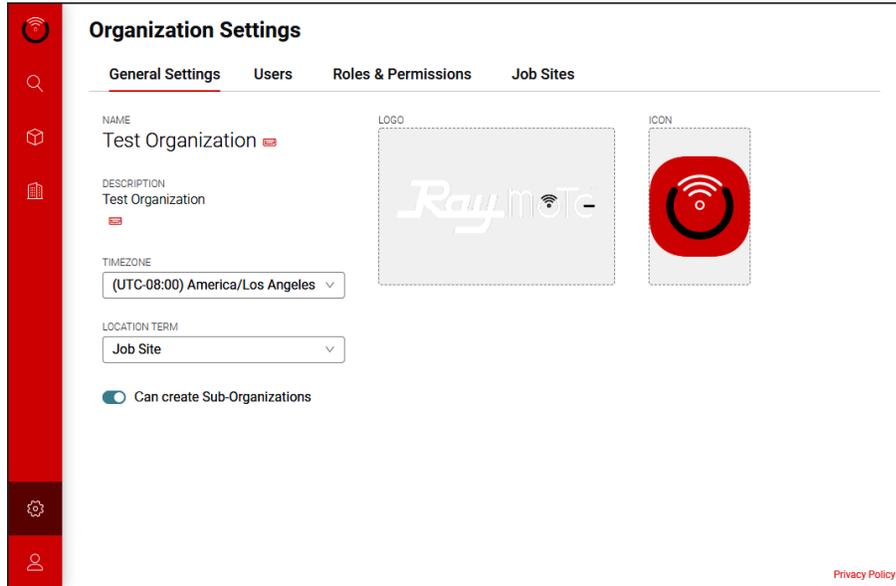

Figure 48. Organization Settings Menu
- Click on the Settings menu, see **Figure 47**, and the “Organization Settings” menu will appear. See **Figure 48**.